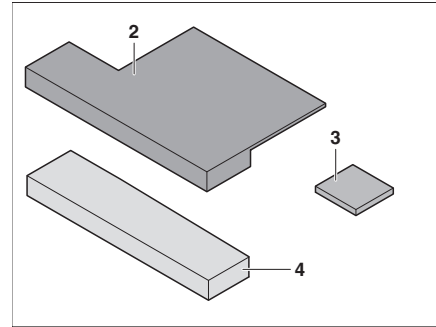

Fig. 188 Additional cushion
- Mount the seat wedge (Fig. 188,3) on additional cushion (Fig. 188,2) (with Velcro).